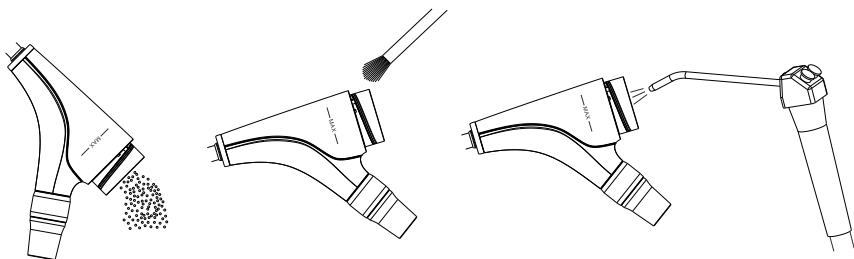

Figure 11 Powder cleaning
- Powder cleaning (See figure 11)